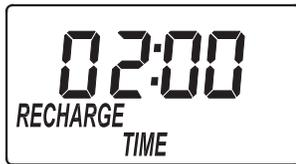

FIG. 5
- The softener's default recharge start time is 02:00 (See Figure 5). This is normally a time of day when water is not being used in the household. Hard water bypasses the softener if the household draws water during the recharge cycle. If a different recharge start time is desired, press the ▲ UP or ▼ DOWN buttons to change the time, in 1-hour